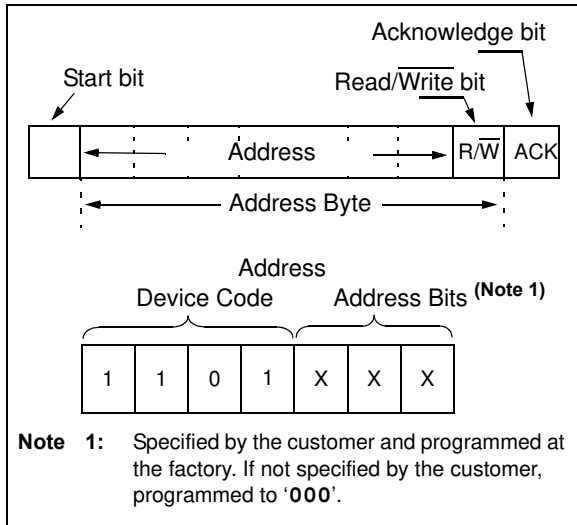
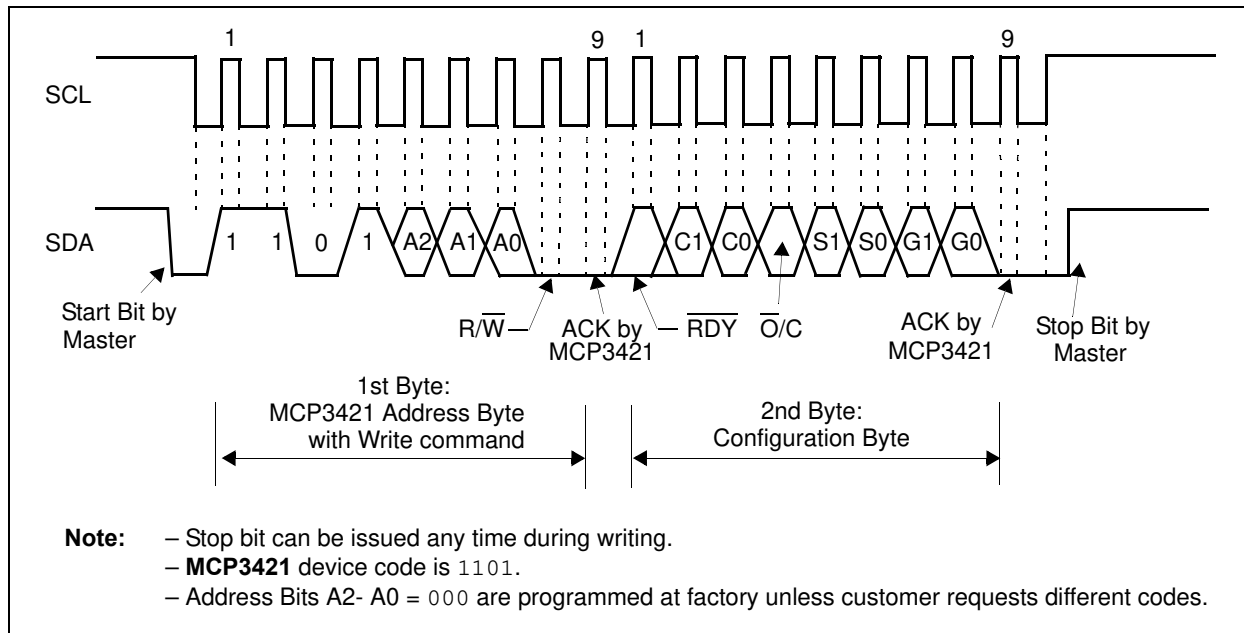

FIGURE 5-1: MCP3421 Address Byte.
FIGURE 5-2: Timing Diagram For Writing To The MCP3421.
The user operates the device by setting up the device configuration register using a write command (see Figure 5-2) and reads the conversion data using a read command (see Figure 5-3 and Figure 5-4). The device operates in two modes: (a) Continuous Conversion Mode or (b) One-Shot Conversion Mode (single conversion). This mode selection is made by setting the $\overline{O/C}$ bit in the Configuration Register. Refer to **Section 5.2 “Configuration Register”** for more information.
Figure 5-1 shows the address byte. Figure 5-2 through Figure 5-4 show how to write the configuration register bits and read the conversion results.
- See Figure 5-1 for details in Address Byte.